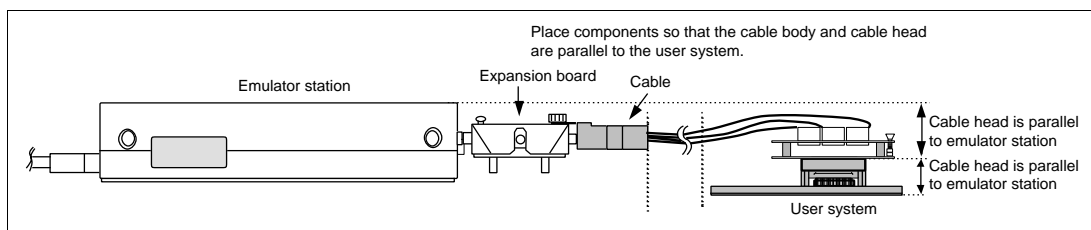

Figure 10 User System Interface Cable Location Example
4. While the emulator station is connected to the user system with the user system interface cable, force must not be applied to the cable head. Place the emulator station, user system interface cable, and user system as shown in the example in figure 10.